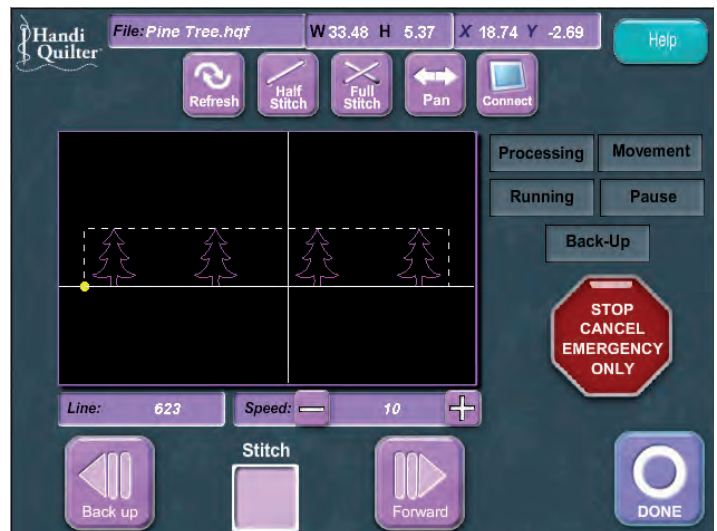

Figure 49
1. Pressing the “Back Up” button will bring the user to the “Back-up Screen” (Figure 49). Here the user is able to move backward or forward through the pattern with or without stitching.